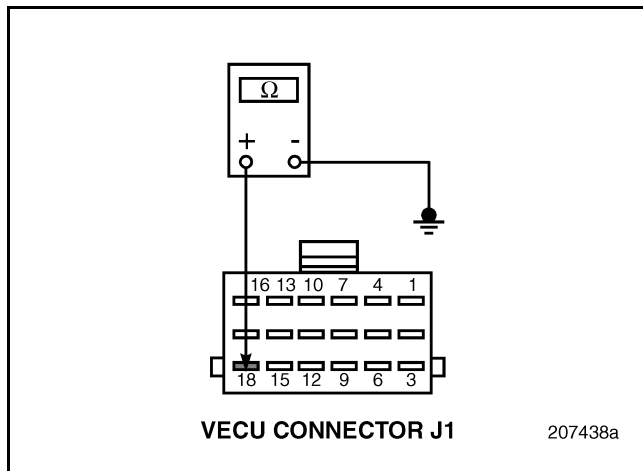

Figure 605
2. Disconnect the harness connector from the Fuel Level (FL) Sensor.
4. Check for continuity between VECU connector J1 pin 18 and a good ground (see Figure 605).